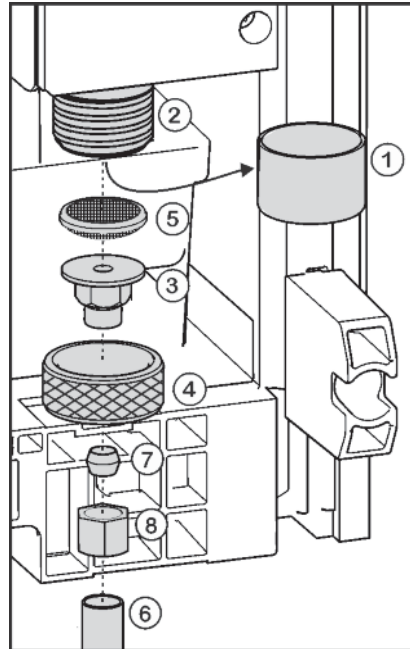

Fig. 18
- ▶ Remove the cap Fig. 18 (1) from the solenoid valve Fig. 18 (2).
- ▶ Insert the coupler Fig. 18 (3) into the union nut Fig. 18 (4).
- ▶ Insert the water filter Fig. 18 (5) with the recess pointing down towards the coupler Fig. 18 (3).
- ▶ Lock the union nut Fig. 18 (4) onto the solenoid valve Fig. 18 (2) and tighten.
- ▶ Connect the water supply Fig. 18 (6) (e.g.copper) to the coupler Fig. 18 (3) by using the clamping ring Fig. 18 (7) and nut Fig. 18 (8).